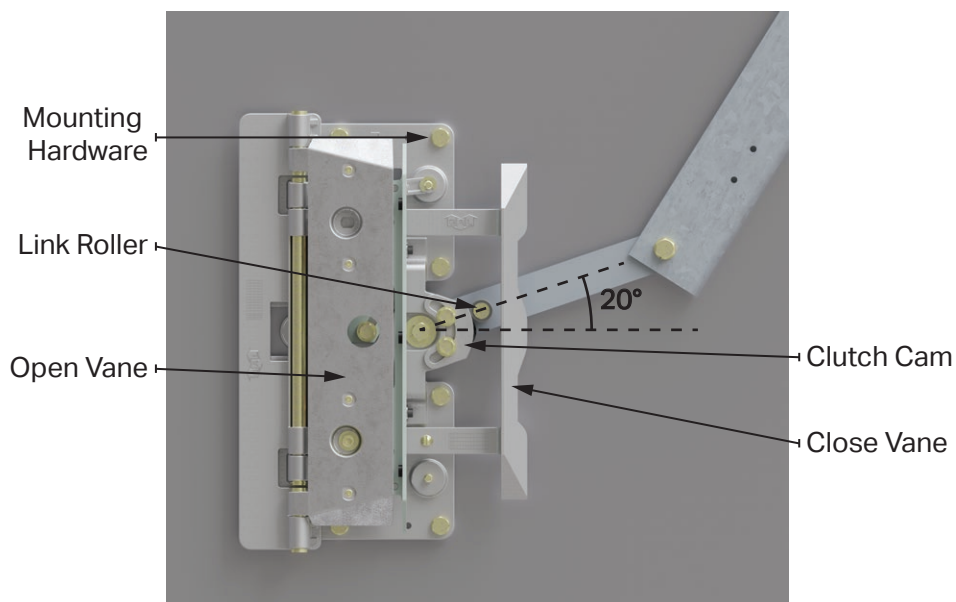

Figure 7: Mounting Clutch and Initial Adjustment
3. Mount the clutch to the door and space appropriately using provided hardware and spacers, as shown in **Figure 7**.